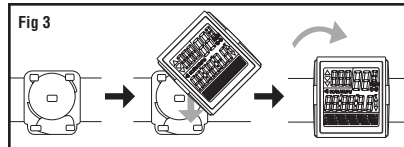

Fig 3
STEP 2: Attach the computer head to the bracket. Press the computer head into the bracket and rotate it clockwise to lock in place. See Figure 3. You should hear a "CLICK" when the computer is locked in place.